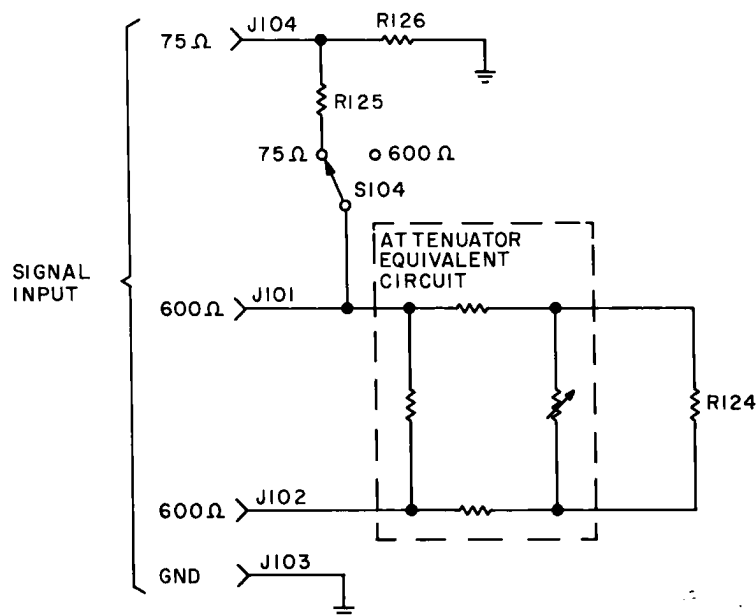
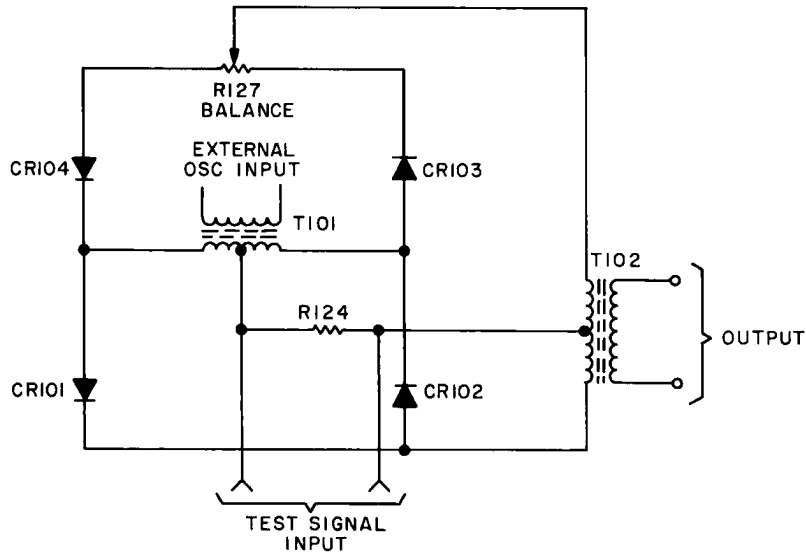

Figure 4-2. Input Circuit, Simplified Schematic Diagram
Figure 4-3. Mixer Circuit, Simplified Schematic Diagram
a. ATTENUATOR-MIXER. - The 600-ohm test-signal input, either balanced or unbalanced, is applied to the attenuator (figure 4-2). Effectively the attenuator is a variable resistor that establishes the desired input-signal, voltage level. The setting of INPUT ATTENUATOR switches S101, S102 and S103 determines the circuit resistance, hence the attenuation. The attenuator output is developed across resistor R124.
(1) The 75-ohm test-signal input is connected across an impedance-matching circuit consisting of R125 and 126. The output of this circuit is then applied to the attenuator. The operation of the attenuator is identical to that described in paragraph 4. 2a, above.
(2) The test-signal input is mixed with the external oscillator signal as shown in figure 4-3. The test signal, developed across resistor R124, (paragraph 4-2a (1)), modulates the external oscillator signal developed at the input of T101. The BALANCE control, R127, adjusts the amplitude of the test signal. The modulation causes beat frequencies to be developed in output transformer T102. The external oscillator frequency is adjusted so that one of the beat frequencies will be 2.5 megacycles.